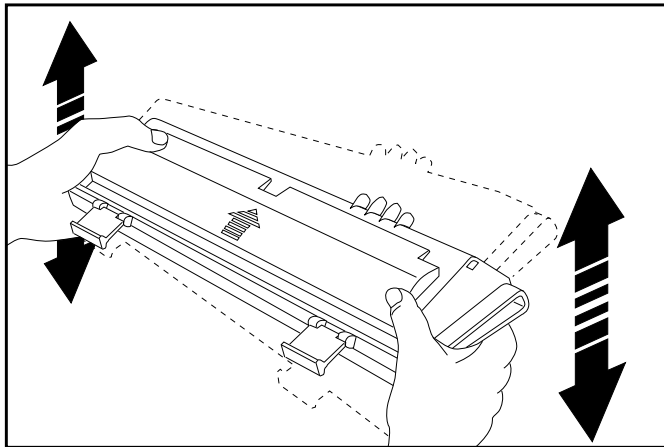

Fig. 2.7 Distribute the Toner
3. Remove the toner cartridge from its package and gently rock it back and forth to distribute the toner evenly throughout the cartridge (fig. 2.7).